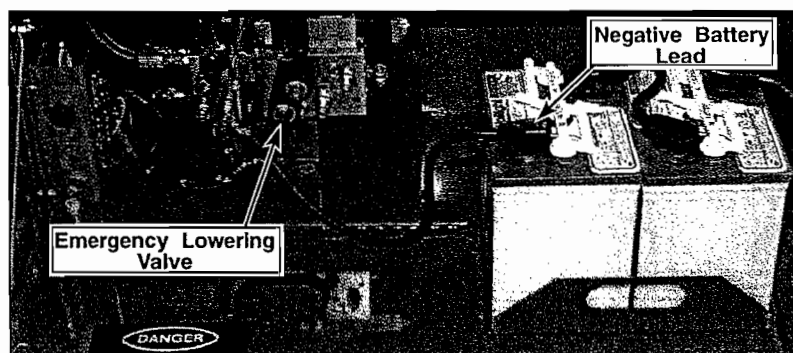

Figure 2-1: Chassis Module, Left Side
5. Close the Emergency Lowering Valve (Figure 2-1) by pushing in on the knob and turning ¼ turn clockwise until the detent engages.
6. Connect the negative battery lead terminal (Figure 2-1).
3. Disconnect the battery negative (-) lead from the battery terminal (Figure 2-1).